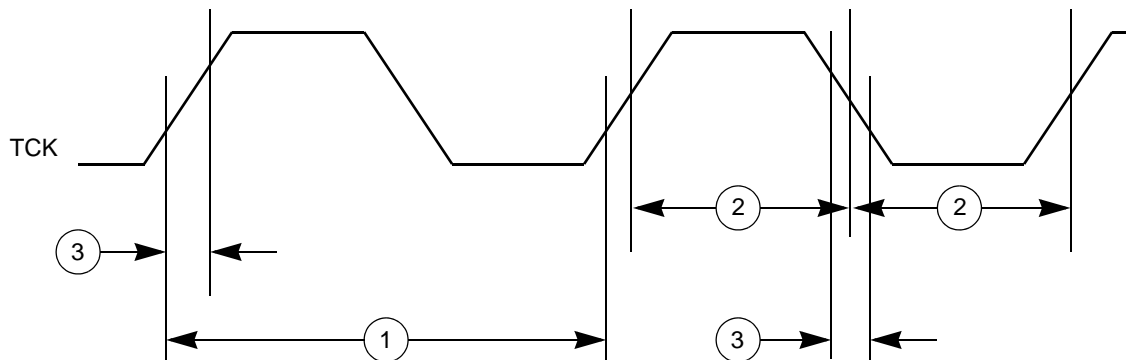

Figure 13. JTAG test clock input timing
- ³ See Notes on t_{cyc} on Figure 13 and Table 25 in Section Section 5.11.1 Clocking.